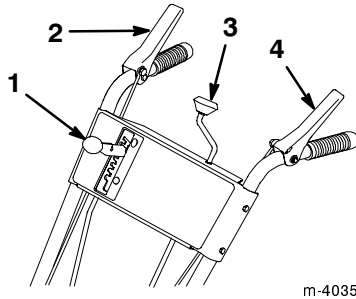

Figure 19
9. Operate the discharge chute control (Fig. 19). If the discharge chute control binds, apply a light coat of grease to the worm gear and move the worm gear slightly outward.
- **Auger/Impeller Drive Control Lever (Fig. 19)**—To engage both the auger and the impeller, press the lever against the right handgrip. To disengage, release the lever.
- **Speed Selector (Fig. 19)**—This control has five positions: two reverse and three forward speeds. To change speeds, move the speed selector to the desired position. The lever locks in a notch at each speed selection. The speed selector may shift with difficulty in heavy load conditions.
- **Discharge Chute Control (Fig. 19)**—Rotate the discharge chute control clockwise to move the discharge chute to the right; counterclockwise to move the chute to the left.
- **Traction Control Lever (Fig. 19)**—To engage the traction (wheel drive), press the lever against the left handgrip. To stop the traction, release the lever.
2. Make sure that the auger/impeller drive control lever and the traction control lever are in the *Disengaged* position (Fig. 19).
9. Move the speed selector (Fig. 19) to first gear, squeeze the traction control lever to the handgrip, and then release the traction control lever. If the snowthrower moves forward before engaging the traction drive control lever or after releasing the lever, see *Adjusting the Traction Drive* on page 20.
4. Release the traction and the auger/impeller drive control levers (Fig. 19).